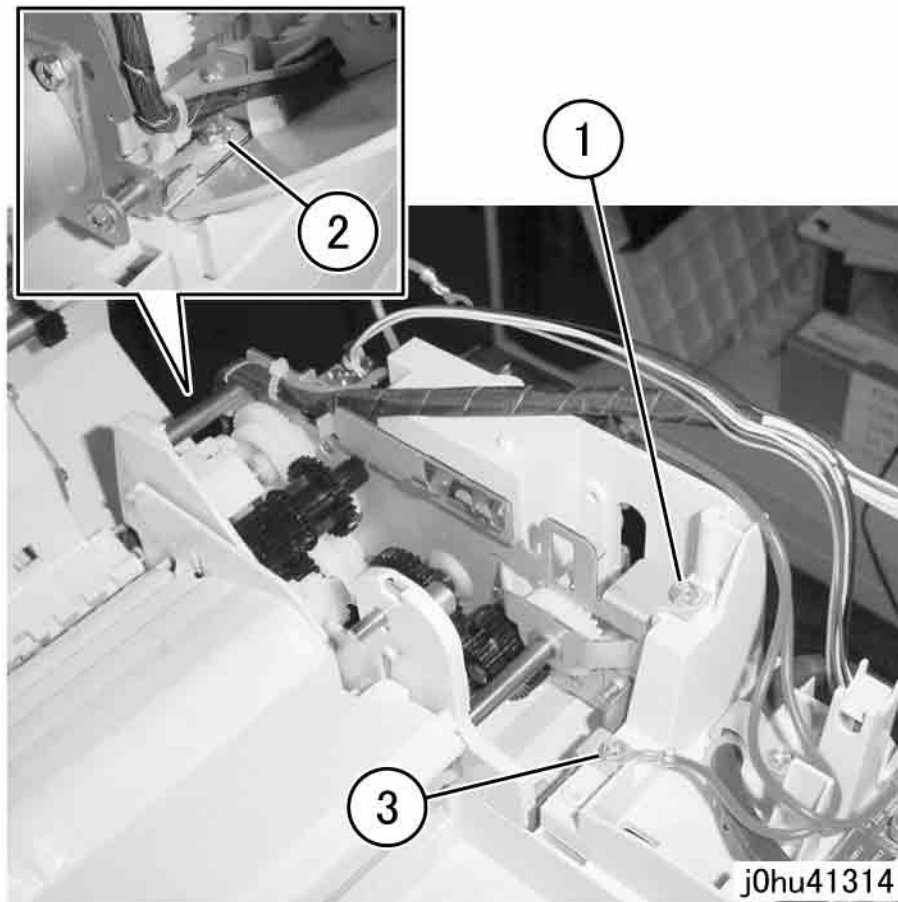

Figure 5 Remove the Screws
9. Remove the Feeder Assembly (Figure 5).